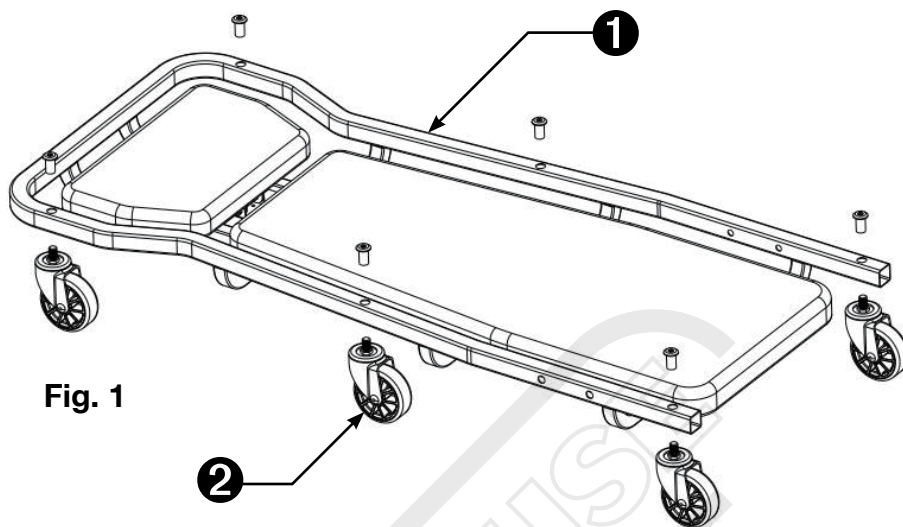

Fig. 1
Assemble the 6pcs 3" Swivel Caster Wheels (❷) one by one onto the body frame (❶) and fasten them with tube type wheel nuts (❸) as shown in Fig. 1.